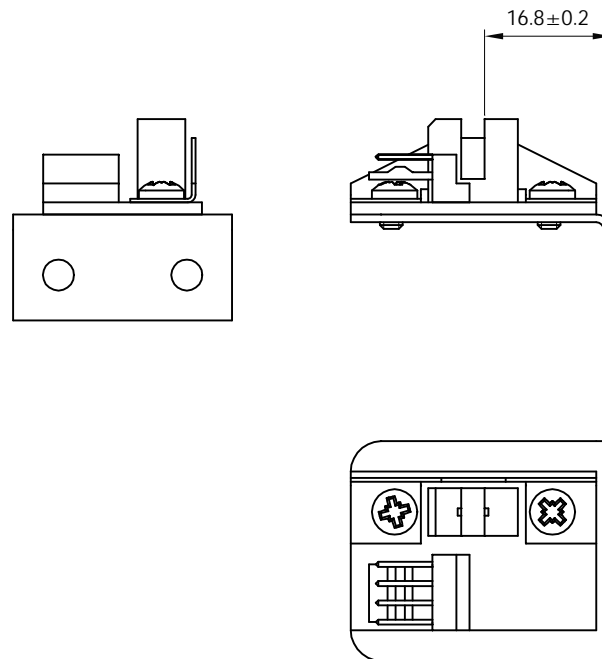

Fig. 8-4, OIB-Board with Bracket
*When replacing the OIB-Board, see Fig. 8-4, page 81 for correct placement on the bracket.*